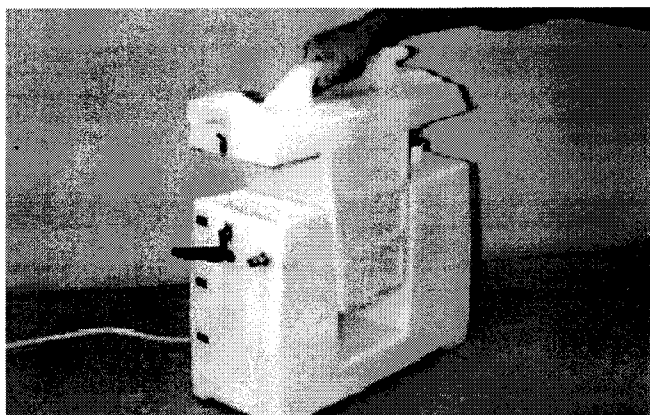

FIG. 1.
1. Unfasten two latches which hold recovery tank to solution tank. Lift recovery tank off solution tank. (Figure 1.)